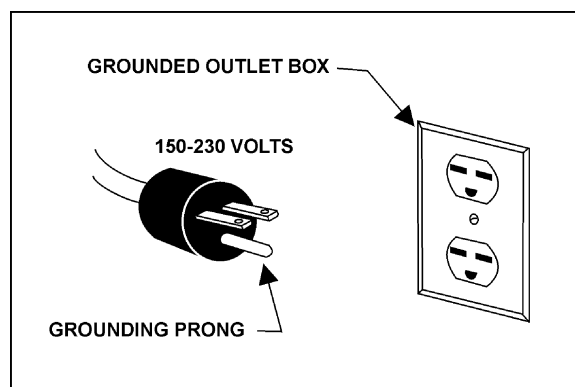

Fig. 6
3. The 115V attachment plug supplied with the band saw must be replaced with a UL/CSA listed plug suitable for 230V operation (Fig. 6). Contact your local authorized WMH Tool Group service center or qualified electrician for proper procedures to install the plug. The band saw must comply with all local and national codes after the 230 volt plug is installed.
4. The band saw with a 230 volt plug should only be connected to an outlet having the same configuration (Fig. 6). No adapter is available or should be used with the 230 volt plug.